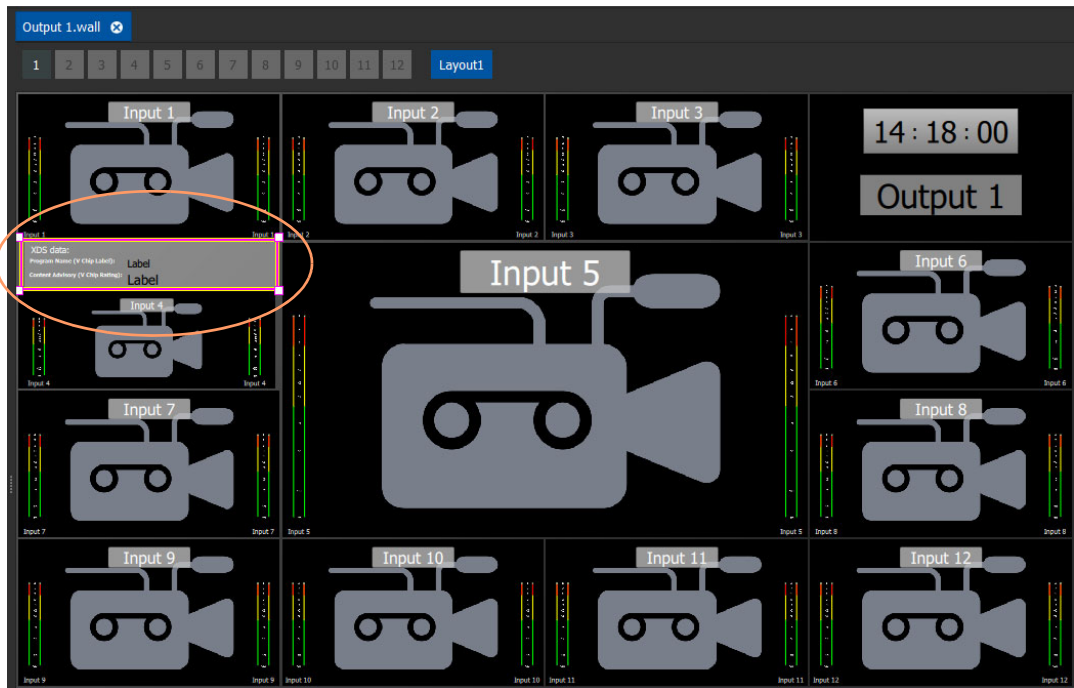

Fig. 5-11: XDS Labels Tile on Wall
- 14 Open a **Wall** and drag on the new tile. See Figure 5-11.